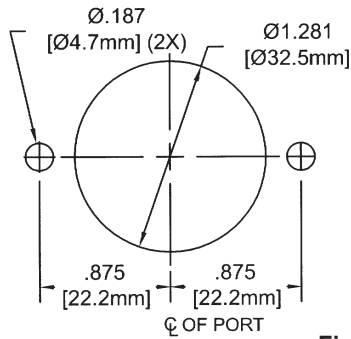

Fig. 2
7.1. PANEL MOUNTING OF RH PUMP HEADS. Two threaded holes (#8-32) are provided on the back side of each RH pump head for panel mounting purposes. A bearing adjustment access hole is also required. Each panel mount layout should, therefore, provide the three holes as shown in fig. 2. below. It will be noted that the center line of the pump